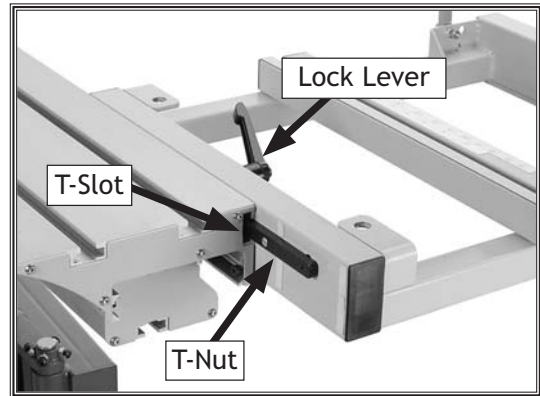

Figure 22. Crosscut table installation.
16. Align the T-nuts on the crosscut table with the T-slot in the face of the sliding table, then slide the crosscut table into position on the sliding table (Figure 22) and tighten the crosscut table lock lever.